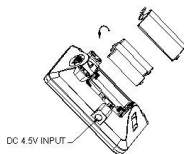

Fig2-10 Battery loading
- 3) Put three pieces AA alkaline battery into battery box following the + - marks as Fig 2-10.
**Warning: Make sure the battery polarity. The product also could be powered by 4.5V DC adapter showing in the Fig 2-10.**